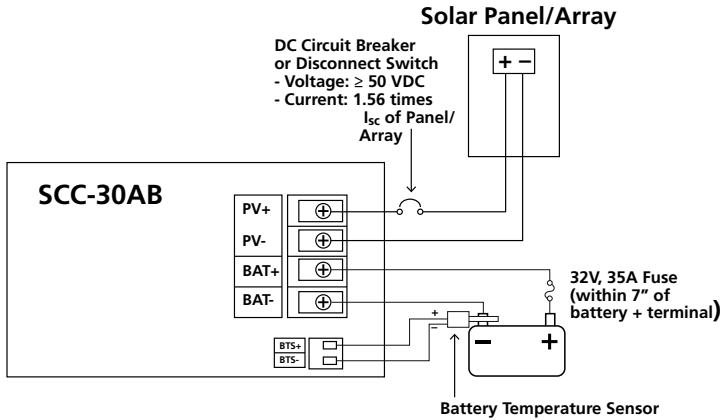

Fig. 6.2. Installation Diagram
- The connections to the SCC-30AB terminals are shown in the drawing at Fig. 6.2. A barrier type of Terminal Strip has been provided for connecting the PV array and the battery. M-4 screws with clamping washers are used to make the connection. A flat or a #2 Philips head screw driver may be used to tighten these screws. Tighten each terminal clamping screw to 20 inch-pounds of torque. The distance between the barriers is 9 mm and a standard Spade Type of terminal lug meant for #8 Stud and AWG #10 – AWG #12 wire may be used at the end of the wires to be connected to these terminals. **4 such terminal lugs are provided with the unit for ease of installation.**
BTS consists of a temperature sensing probe that is installed on the (-) Negative battery post (Fig. 6.2). The temperature of the battery post reflects the approximate temperature of the electrolyte. A pair of 10 metres wires (marked + & -) connect the temperature sensing probe to the 2 terminals marked (+) BTS and (-) BTS at the back of the unit.